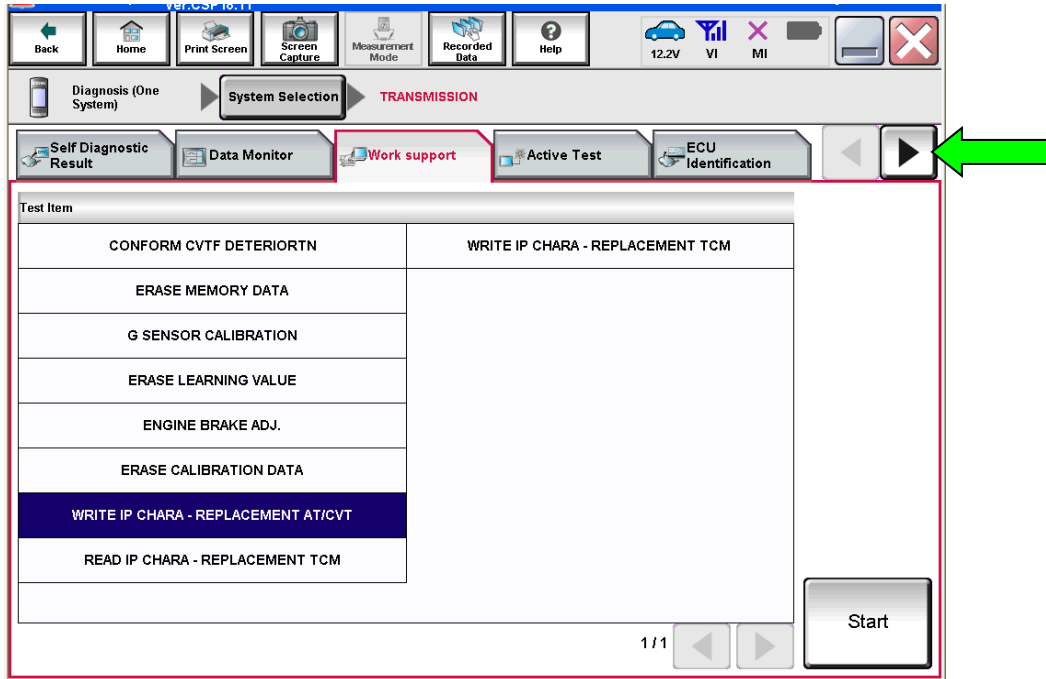
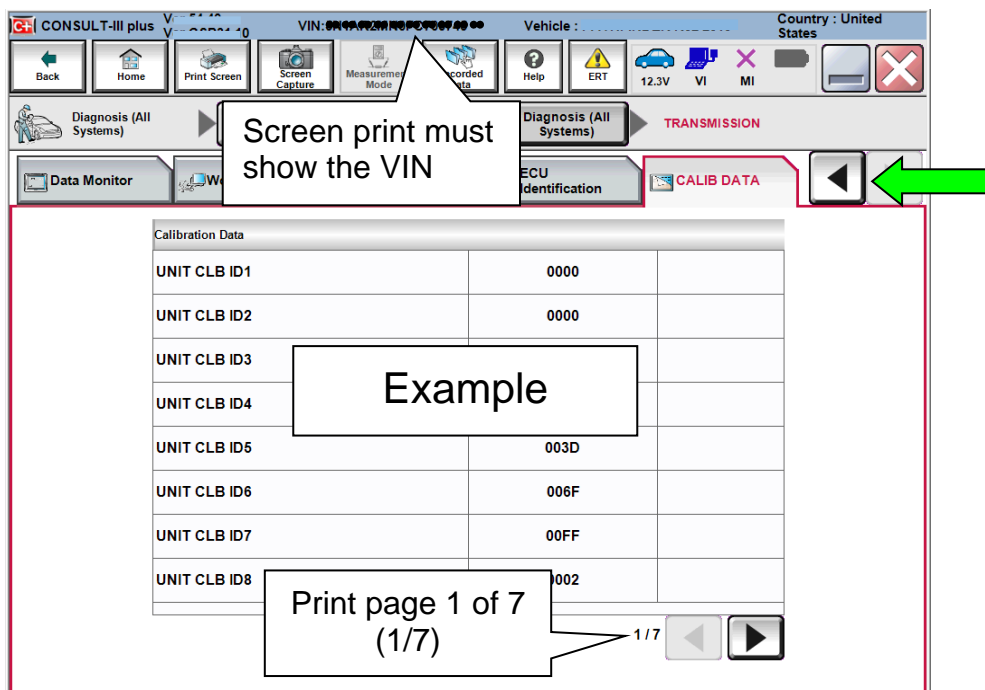
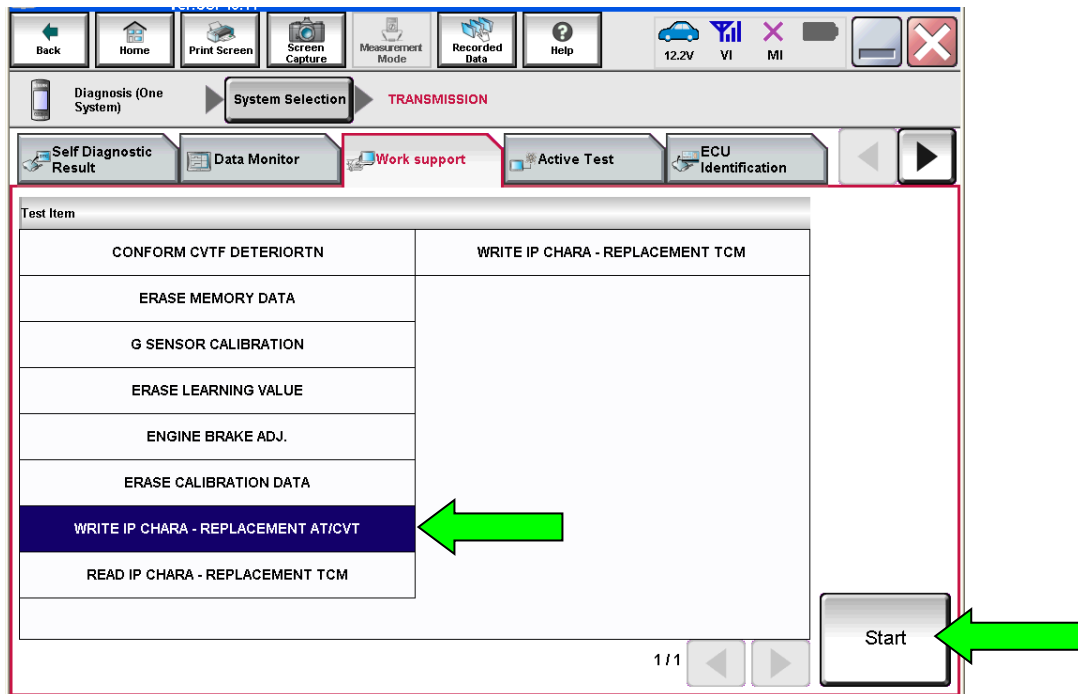

Figure 8
Figure 9
Figure 10
8. Select the scroll arrow shown in Figure 8, and select the **CALIB DATA** tab shown in Figure 9.
9. Print a copy of the screen shown in Figure 9 and attach it to the repair order.
10. Select the scroll arrow shown in Figure 9 and select the **Work support** tab as shown in Figure 10 on the next page.